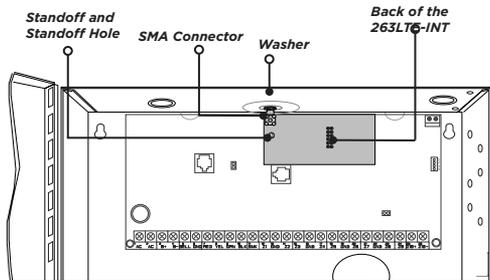

Figure 2: 263LTE-INT on an XT30INT Control Panel
3. Align the 263LTE-INT SMA antenna connector with the antenna hole in the top of the panel enclosure, place one washer around the connector, and secure it on the 12-pin cell module connector. See Figure 2.